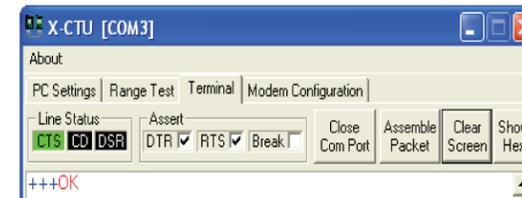

Figure 1
5. On the Terminal tab, enter command mode. This mode eliminates over-the-air communications for the XBee module, and allows internal communication with the XBee module parameters. If command mode is entered, an OK message is displayed. There is a one-second “guard time” before and after entering command mode, and a ten-second timeout. To enter command mode, enter +++ with no carriage return. [Figure 1]